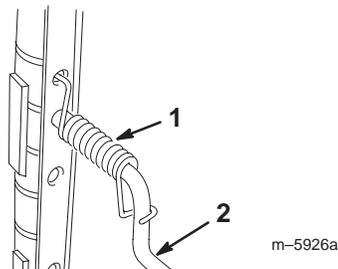

Figure 6
2. Ensure that the end of the torsion spring is anchored in the right side of the upper handle as shown in Figure 6.
- 3. Hook the torsion spring around the traction control bar as shown in Figure 6.
- 4. Rotate the traction control bar one revolution to wind the spring and hold it (Fig. 6).